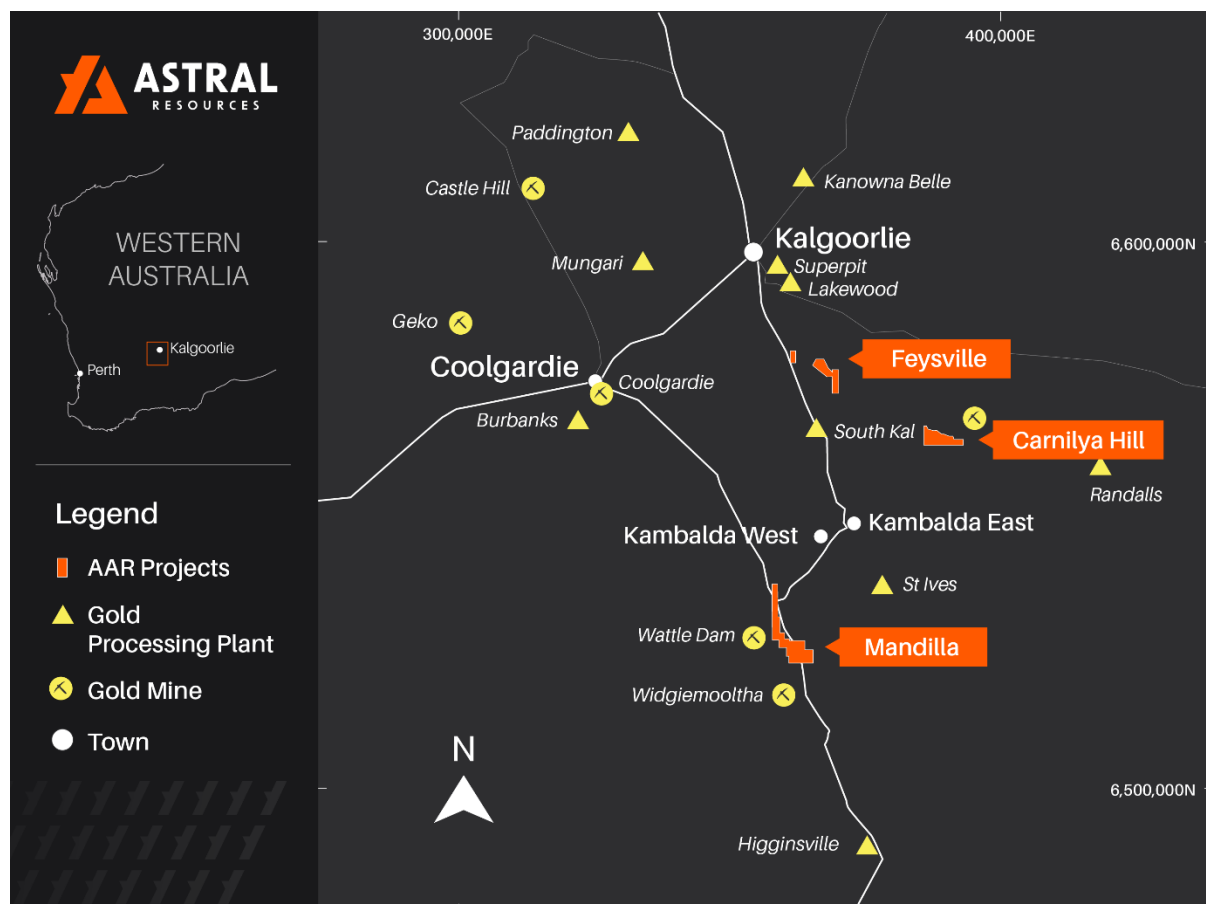

Figure 1 – Mandilla Project location map.
Astral Resources NL (ASX: AAR) (Astral or the Company) is pleased to report results from the recently completed diamond drilling (DD) campaign at its 100%-owned Mandilla Gold Project (**Mandilla** or **Project**) located approximately 70km south of Kalgoorlie in Western Australia (Figure 1).